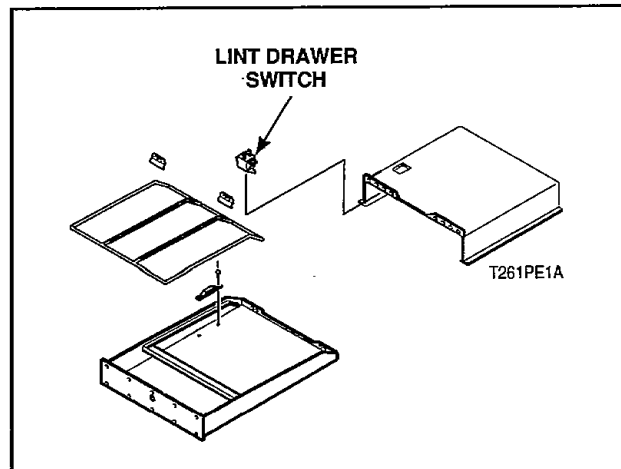

Figure 10
12. LINT DRAWER SWITCH (Figure 10)